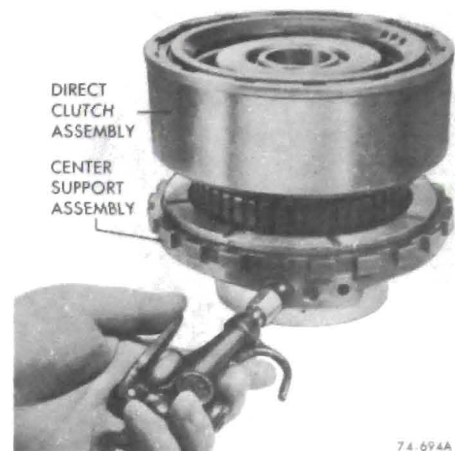

Figure 76-695
17. Place direct clutch assembly over center support and air check operation of direct clutch. See Figure 76-695.